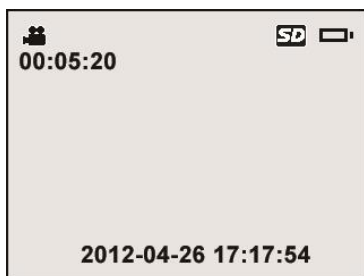

Fig. 24
**NOTE:** Before capturing a video, figure at the top left under the video icon indicates how long a section of video you can save in the space left. (Fig.24)